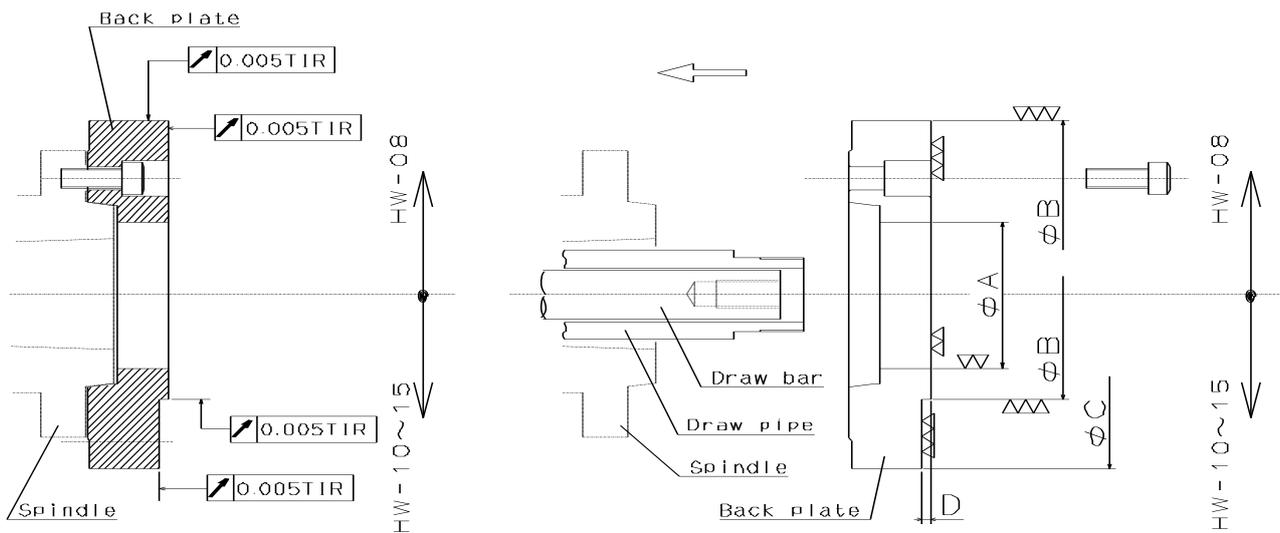

Fig.18
- Fig.18 shows the case of the JIS short taper standard.
- Determine the dimension (dimension ϕA in Fig.18) of the back plate so that the plunger nut end surface contacts the back plate and stops when pulling the plunger nut. If the stroke is larger than the one specified, it may cause a chuck breakage or gripping failure.